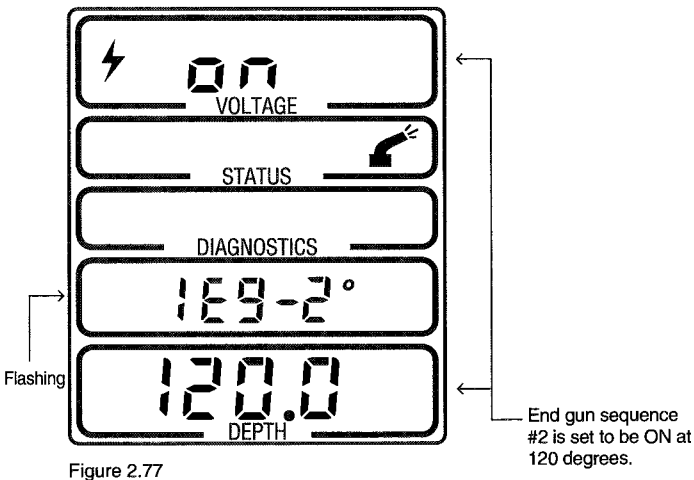

Figure 2.77
2. Continue pressing the SELECT button to advance to the end gun screen identified as "1Eg - 2" as displayed in figure 2.77. Remember, the "2" in "1Eg - 2" indicates the second end gun sequence which is the one which needs to be changed.